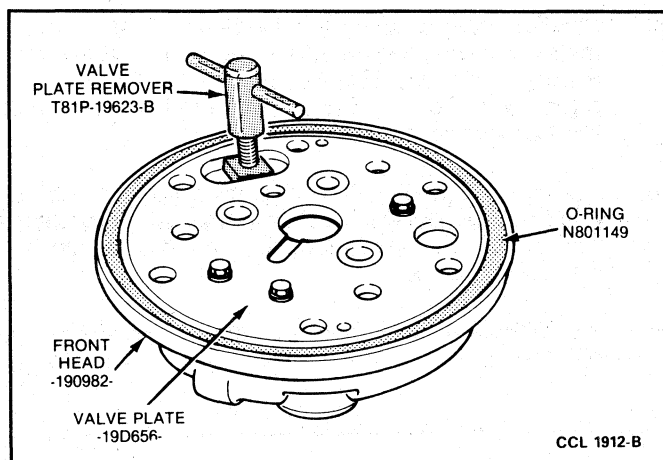

FIG. 14 Valve Plate—Removal
7. Remove front valve plate assembly and gasket from the front head with Valve Plate Remover T81P-19623-B or equivalent (Fig. 14).
8. Remove valve plate assembly from rear head with Valve Plate Remover T81P-19623-B or equivalent (Fig. 14).
6. Remove valve plate assembly from the rear head with Valve Plate Remover T81P-19623-B or equivalent (Fig. 14). Use care not to lose the two dowel pins.
19. Remove valve plate assembly from front head with Valve Plate Remover T81P-19623-B or equivalent, (Fig. 14).